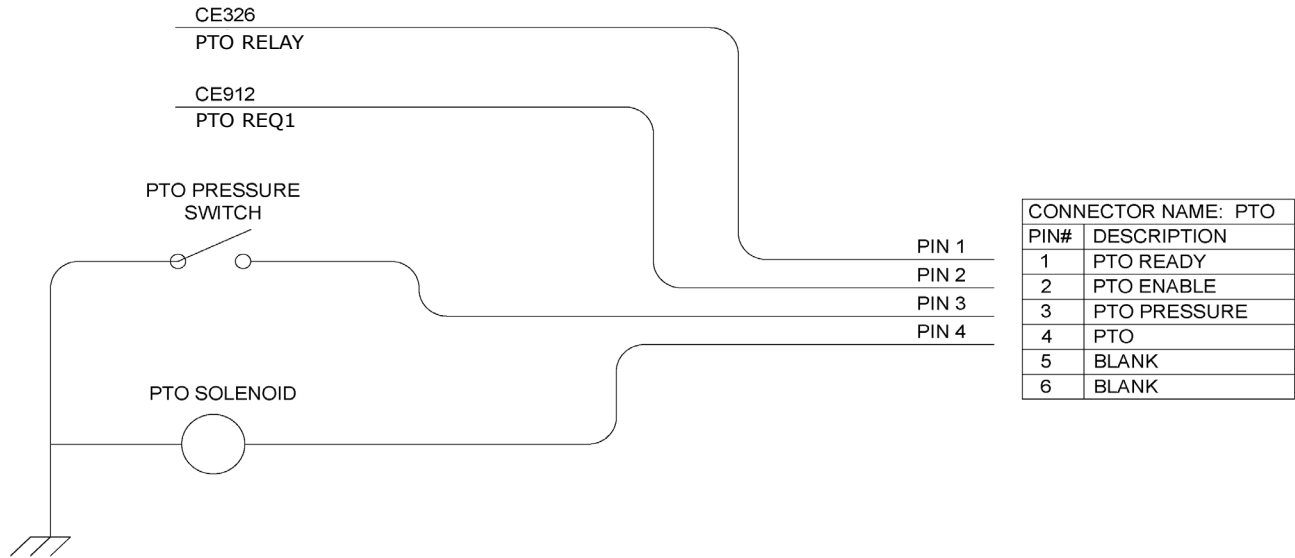

Figure 32 - PTO Activation Circuit
8. Route the section of chassis harness (P/N: 475300353) with connector labeled **"PTO"** to location under hood and plug into housing defined in Figure 32.